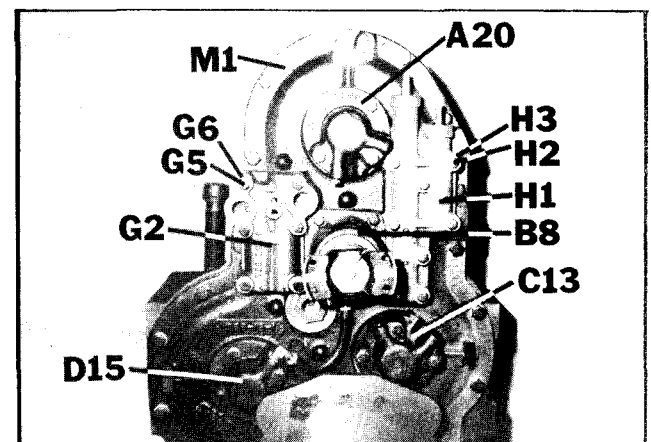

Figure 3
6. Remove cover (A-20) gasket and shims. (Figure 3)
7. Remove cover (B-8) containing O ring and oil seal. (Figure 3)
8. Remove cover (C-13) gasket and shims (Figure 3)
9. Remove cover (D-15) gasket and shims (Figure 3)
12. Remove 8 capscrews (H-2) and lockwashers (H-3) to release selector valve body (H-1) and gasket (H-11) noting the 2 poppet balls (H-8), 2 pins (H-9), and 2 springs (H-10) behind the valve assembly (Figure 3 and 4).